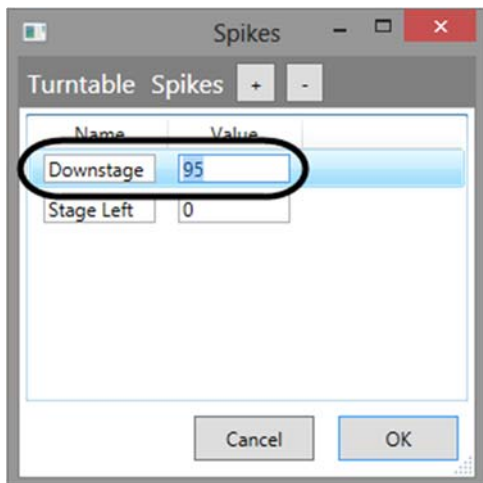

Figure 59
2. Change the value for the *Downstage Spike* to 95 (Figure 59).